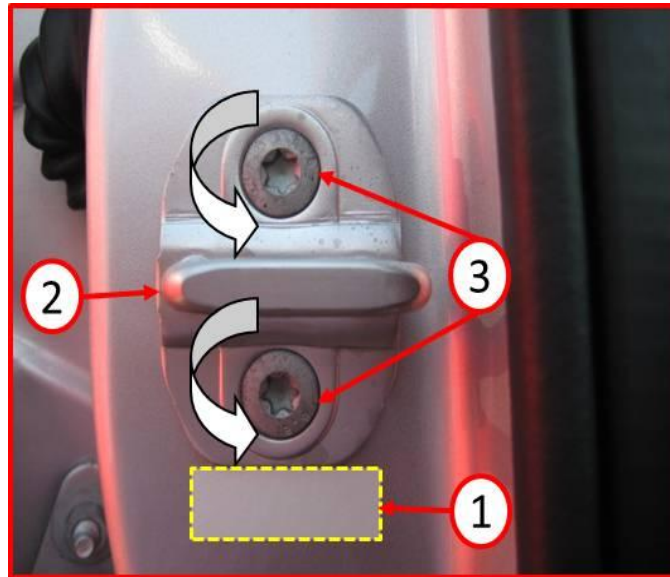

Fig. 4 Remove Striker
7. Open the suspect front door and place a piece of tape (1) at the bottom of the striker plate (2) to mark its vertical position to the body before removing the two fasteners (3) securing it (Fig. 4).